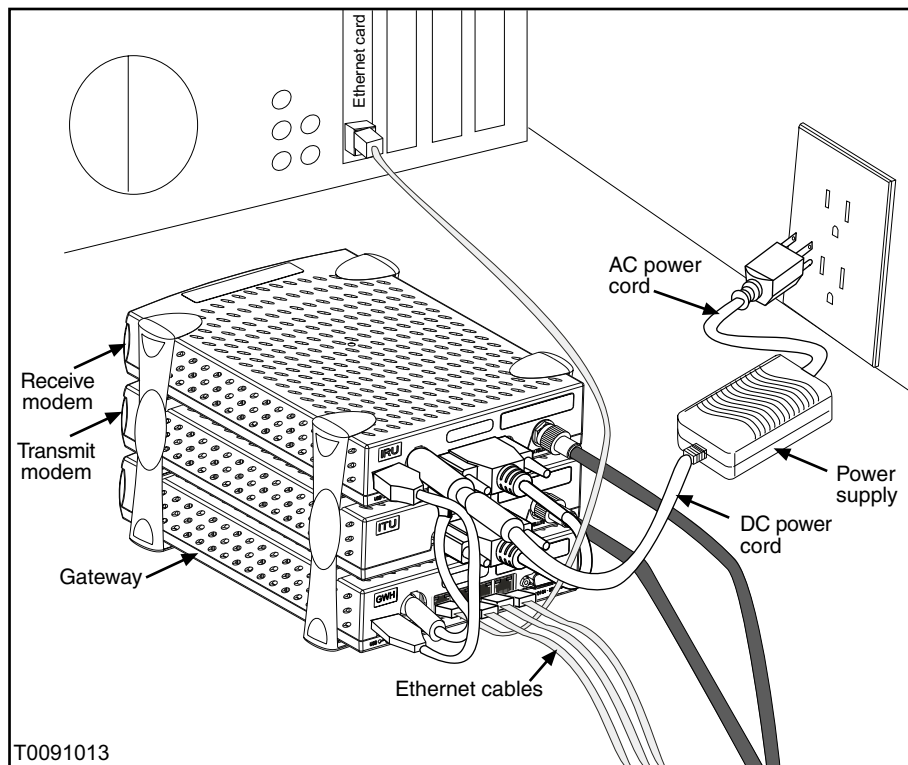

Figure 66: DW4020 power and cable connections
- Check to make sure the power cord is securely attached to the receive modem and plugged into the wall outlet or surge protector. See Figure 66. If the power cord was loose, the receive modem READY led will come on when power is restored.
- Check that the 25-pin connector is attached securely. See Figure 66.
- Check to make sure the power cord is securely attached to the receive modem and plugged into the wall outlet or surge protector. See Figure 66. If the power cord was loose, the transmit modem READY led may come on.
- Check to make sure the power cord is securely attached to the Gateway and receive modem and plugged into the wall outlet or surge protector. See Figure 66. If the power cord was loose, the Gateway and receive modem READY LEDs will come on when power is restored.
- Check to make sure the USB cable is securely attached to the Gateway and receive modem. See Figure 66. If the cable was loose, the Gateway and receive modem READY LEDs will come on when it is reattached.